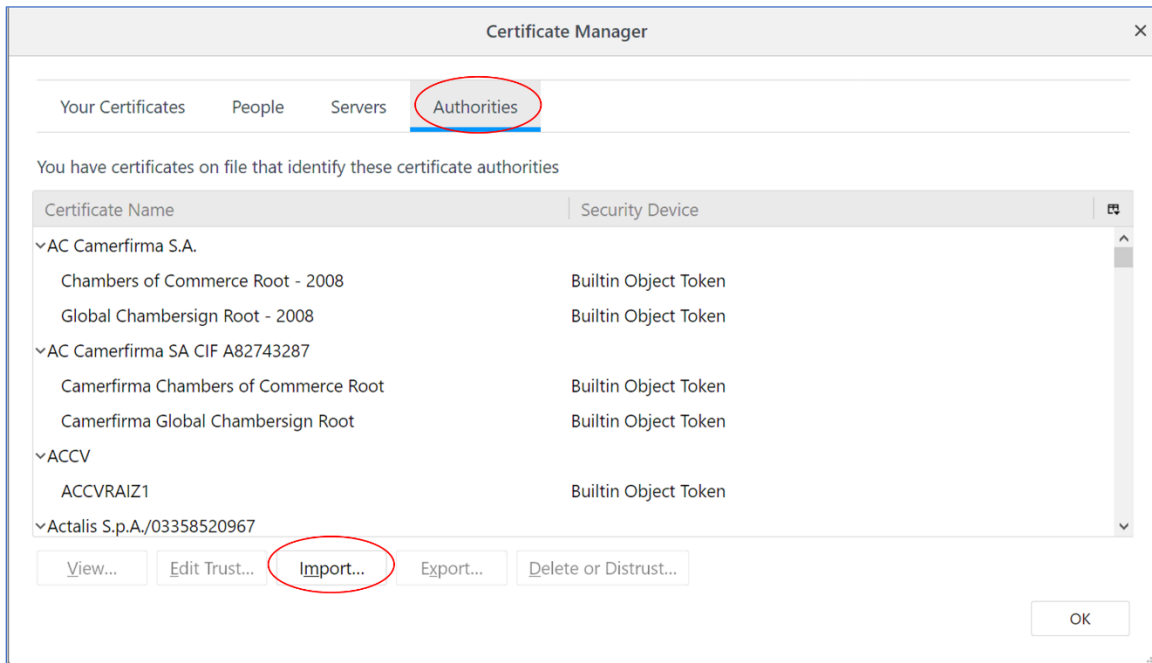

Figure 332: Firefox Certificate Manager
4. Click on the View Certificates... button to view the Certificate Manager, as shown in Figure 332.